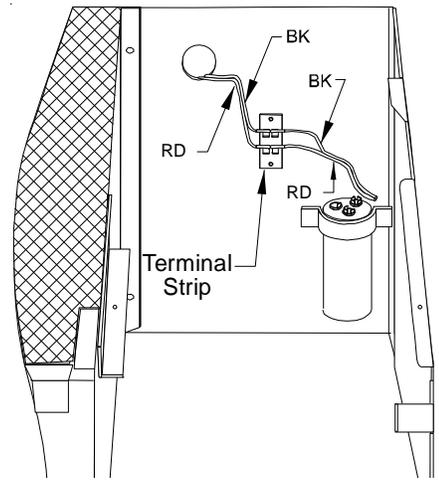

Figure 13
6. Using the two provided #8 screws, attach the terminal strip to the partition panel inside the control panel compartment (Figure 13).
8. Take BK and RD indoor fan motor wires from the control board (high and low fan terminals) and place on the terminal strip, each on a different set of terminals (Figure 13).